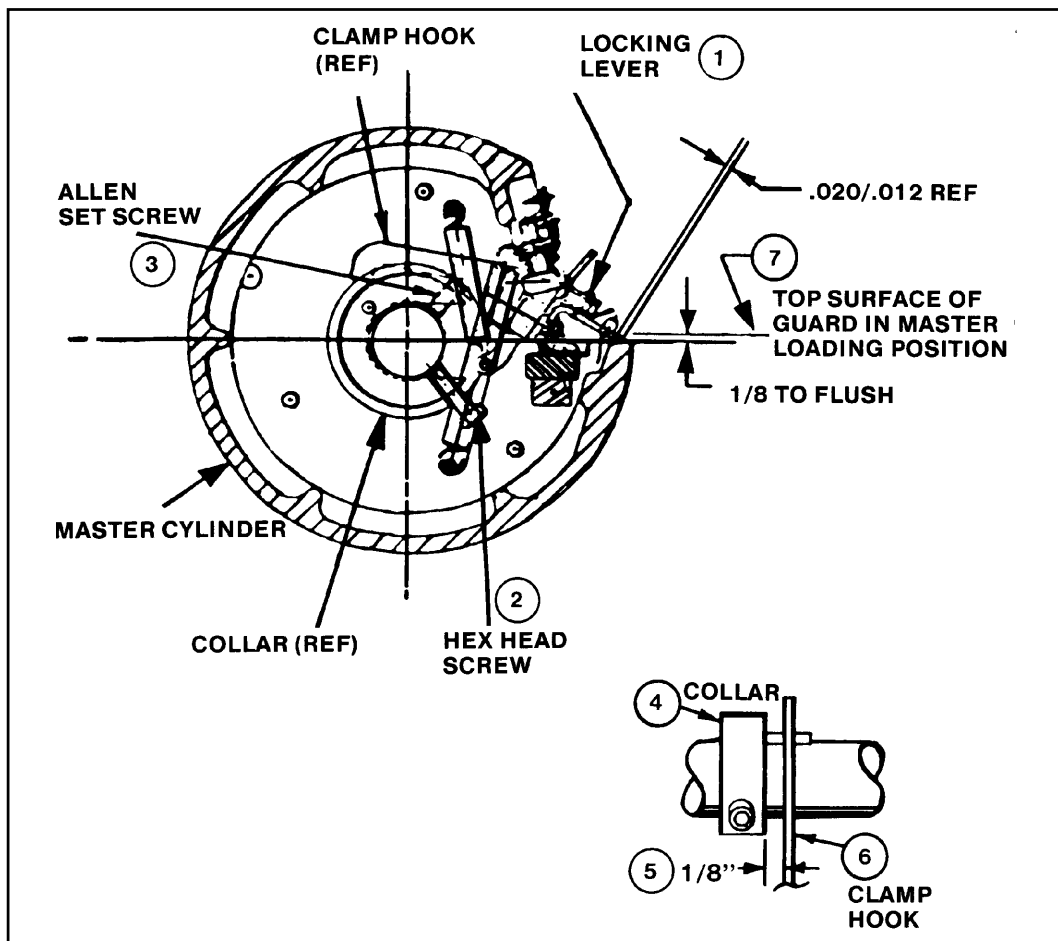

Figure 33 - Master Cylinder Clamp
2. Disengage locking lever (1) (see Figure 33).
3. Loosen hex screw (2) and allen screw (3).
4. Position collar (4) to provide 1/8" clearance (5) between the collar and the clamp hook (6).
6. Rotate the master cylinder clockwise until the clamp opens. Slowly continue turning until the clamp reaches its maximum "open" position. At this point, the lead edge of the cylinder should be flush to 1/8" below the top surface of the safety guard in master loading position (7).
- a. Rotate collar (4) counterclockwise to raise cylinder up to the specified loading position.
- b. Rotate collar (4) clockwise to lower cylinder down to the specified loading position.
8. Tighten hex Screw (2) and allen screw (3).
9. Engage locking lever (1).